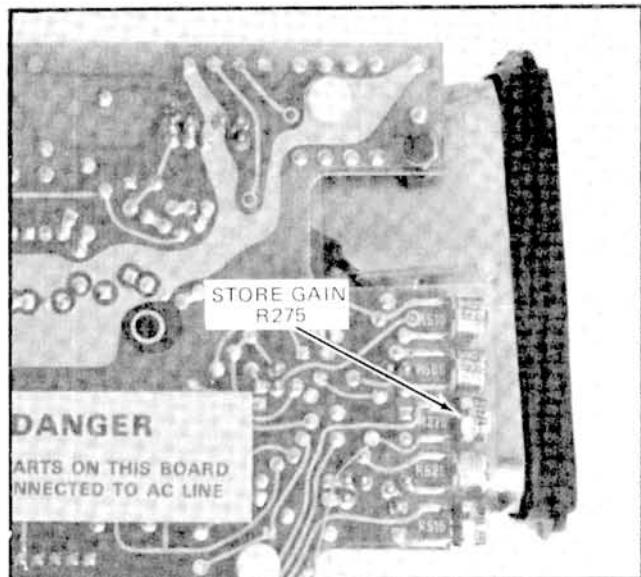

Fig. 4-7. Location of Store Gain adjustment.
- ADJUST—Store Gain adjustment, R275 (see Fig. 4-7) for exactly four divisions of deflection.